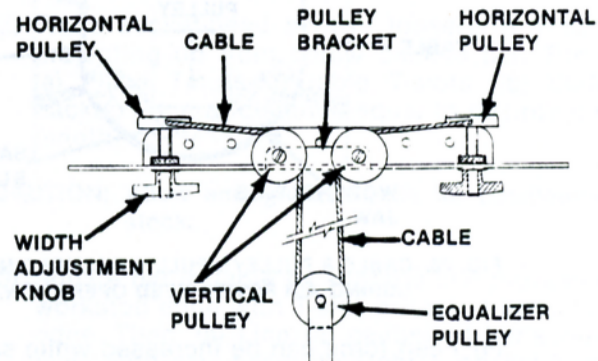

FIG. 26. CABLE & PULLEY ASSEMBLY -- REAR CROSS-SECTION VIEW.
- (1) Adjust pulley and carrier system for work width. This is done by loosening 2 knobs located below rear bracket, then removing any slack in workholding chain. See Fig. 26.